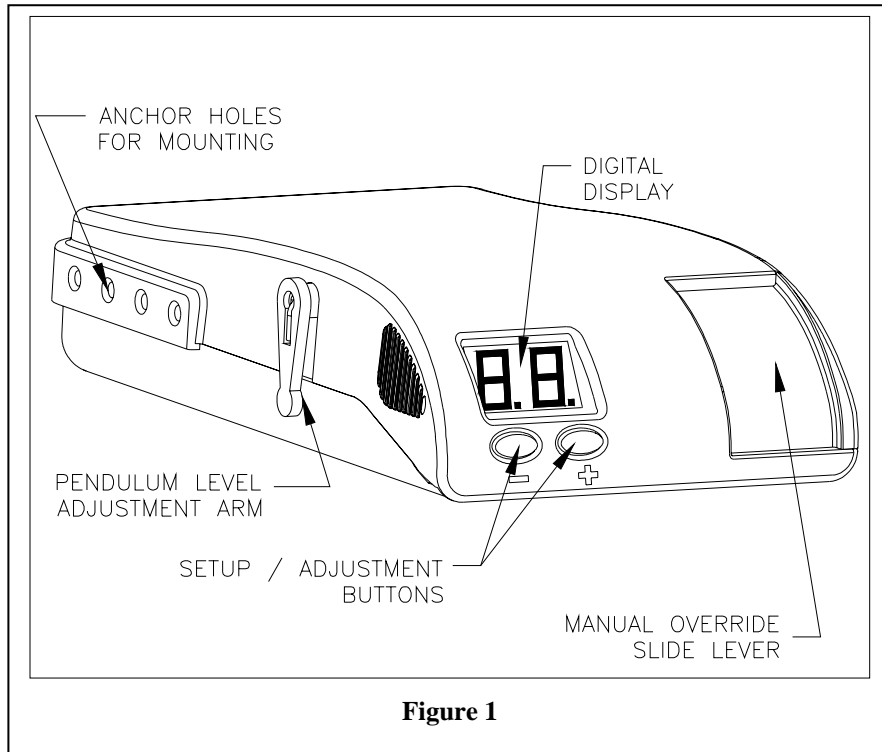

Figure 1
5. Pull the pendulum-leveling arm (Fig. 1) fully toward the rear of the tow vehicle. display should increase in numerical value greater than 10.